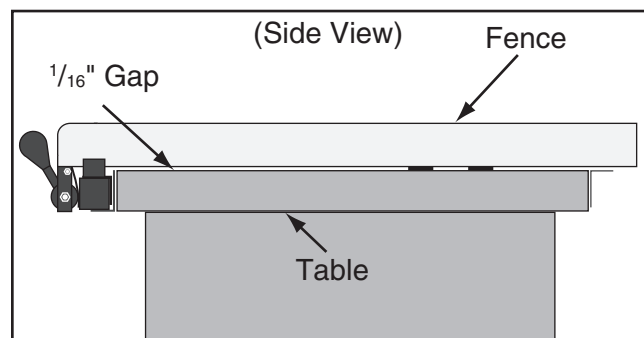

Figure 119. Gap between fence and table approximately $\frac{1}{16}$ " from to back.
—If the gap is approximately $\frac{1}{16}$ " and even from the front of the table to the back (see **Figure 119**), then no additional adjustments are necessary. Proceed to **Clamping Pressure and Parallelism**.
4. Loosen the rail mounting bolts and adjust the rails as needed until the fence rides smoothly, the gap is approximately $\frac{1}{16}$ ", and is even from front to back (see **Figure 119**).
- If the fence drags across the table, then loosen the rail mounting bolts and adjust the rails just enough so the gap between the fence and the table is even from front to back (see **Figure 119** on **Page 66**). Tighten the rail mounting bolts.